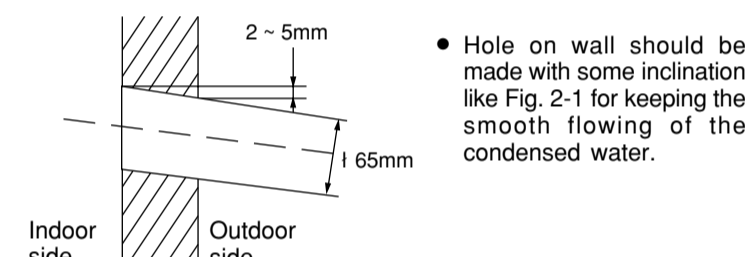

Fig. 2-1
2.1 Make a hole on the wall such the place as shown in Fig. 2-1, in order to keep the flow condensed water smooth.